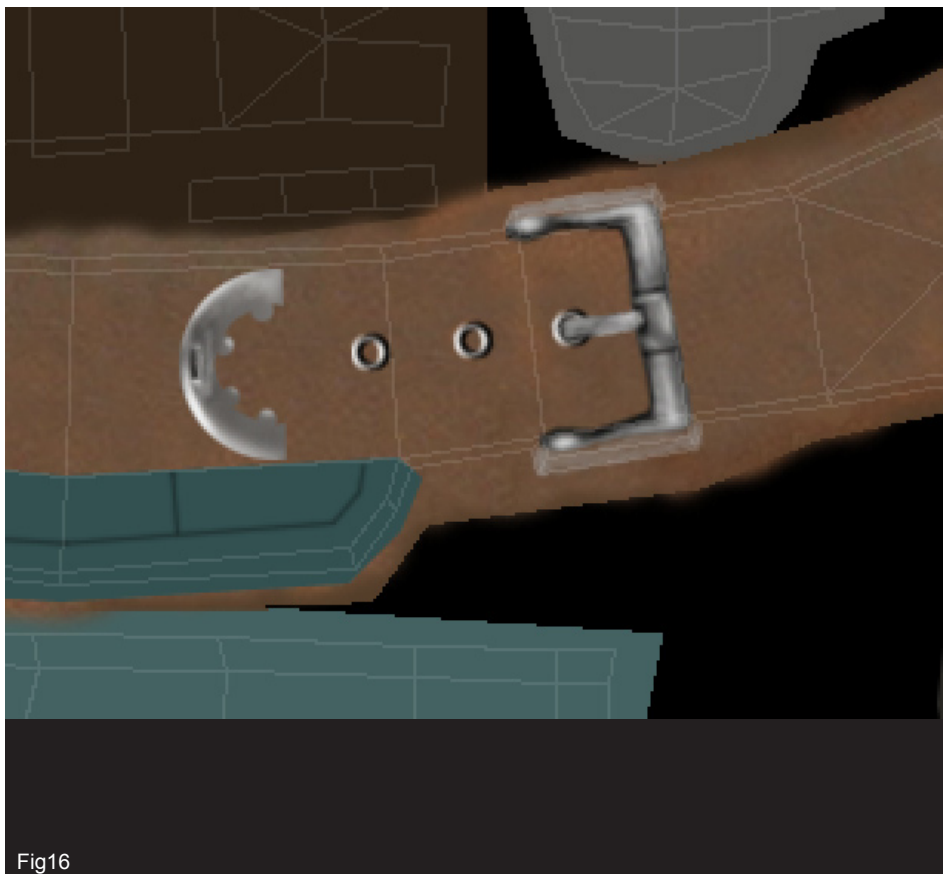

Fig16
16. The two other details that are still missing are the buckles. Again, these will be done on separate layers in order that changes can be made quickly. In Fig.16, you can see two buckles that have been painted in. To create the left one make a circular selection and fill in with a grey colour. Now contract this selection group and hit 'delete', leaving a ring, as we did with the rivets. Now delete half of the remaining shape and use the circular selection once again to add the small semi-circles around the inner-edge. Now just use a brush to add in the highlights and shadows manually. These elements are best done by hand in the end and so there are no clever tricks to speak of, just an awareness of where you want the light source.